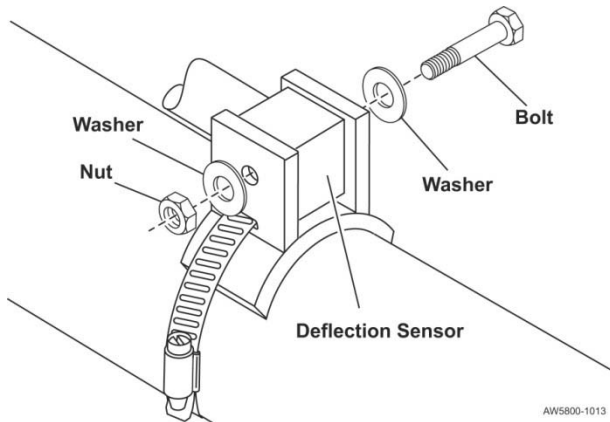

Figure 31. Inserting Bolt and Washers into Sensor and Bracket
- G. Slide the bolt through the bracket holes nearest the sensor cable, from the front of the vehicle to the rear. See Figure 31.